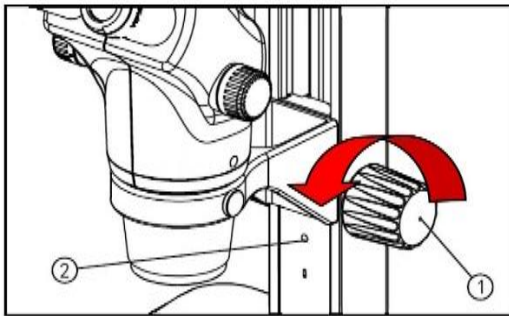

Fig. 9
NOTE: The working distance (the distance between the microscope objective to the top of the specimen) of the microscope is 115mm, the trinocular head bracket/focus mount (5) can be mounted onto higher or lower positions according to your needs by removing the clamping bolt (2) (Fig. 9 next page) with the Allen wrench provided.
Adjusting the Rotation Tension of the Focus Adjustment Knob (Fig. 9)